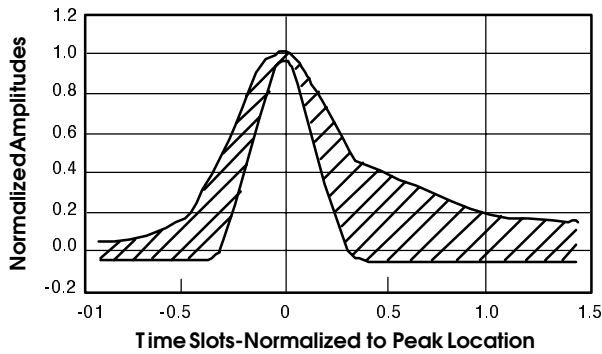
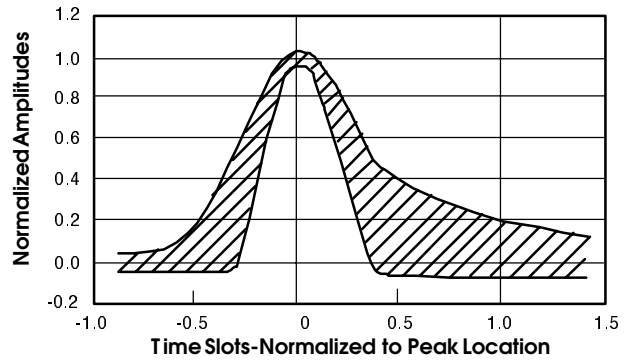

Figure 3. DSX-3 Isolated Pulse Template for ANSI T1.404 Standards
Figure 4. DSX-3 Isolated Pulse Template for Bellcore TR-NWT -000499
Currently, two isolated pulse template requirements exist: the ANSI T1.404 pulse template (*See Table 3 and Figure 3*) and the Bellcore TR-NWT-000499 pulse template. The pulse transmitted by the XRT7298 meets these templates.
Pulse Shape	An isolated pulse must fit the template in Figure 3 or Figure 4 . ¹ The pulse amplitude may be scaled by a constant factor to fit the template. The pulse amplitude must be between 0.36Vpk and 0.85Vpk, measured at the center of the pulse.
- ¹ The pulse template proposed by G.703 standards is shown in *Figure 4* and specified in *Table 4*. The proposed G.703 standards further state that the voltage in a timeslot containing a 0 must not exceed ± 5% of the peak pulse amplitude except for the residue of preceding pulses.
Table 3. DSX-3 Pulse Template Boundaries for ANSI T1.404 Standards (See *Figure 3*.)
Table 4. DSX-3 Pulse Template Boundaries for Bellcore TR-NWT -000499 Standards (See *Figure 4*)